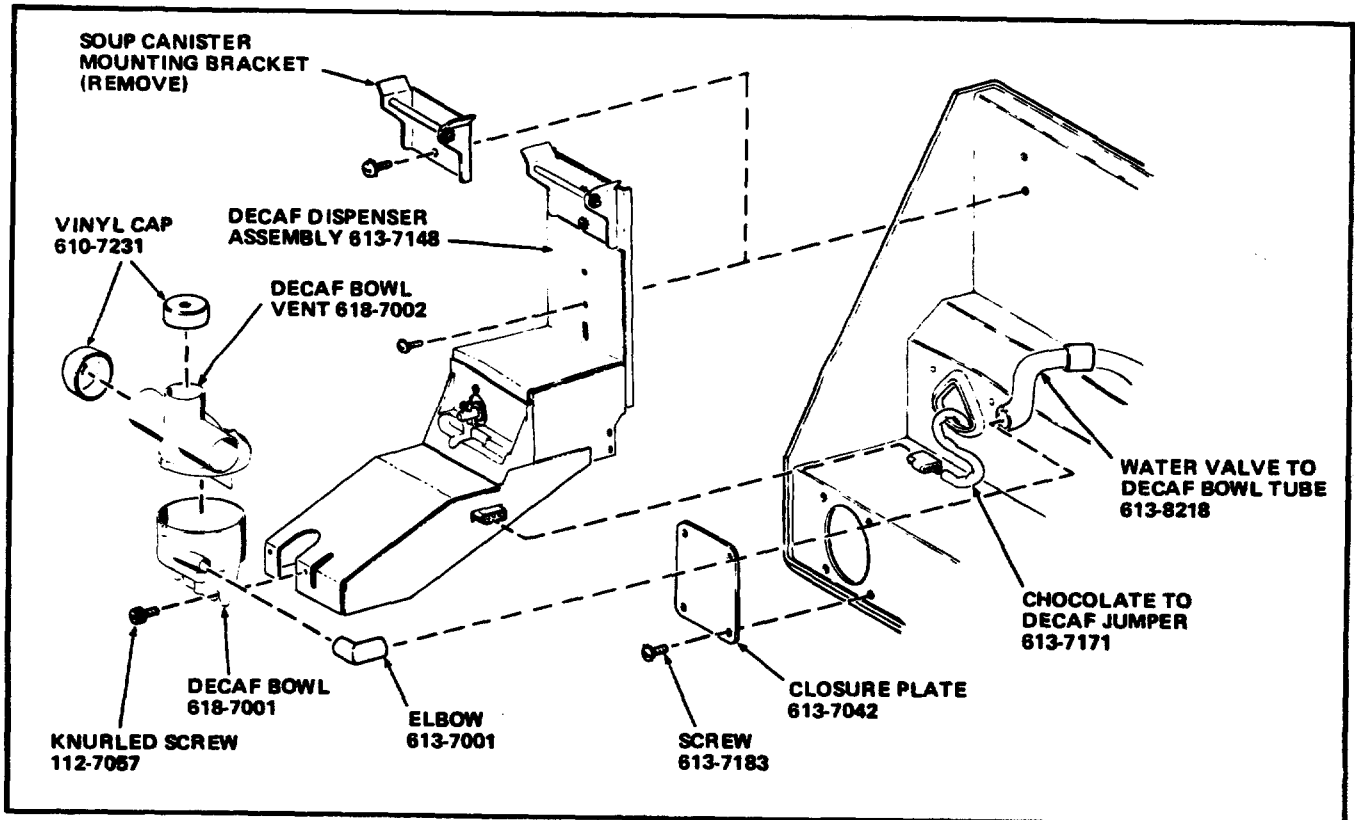

FIGURE 4
30. Position the Chocolate-to-Decaf Jumper so that the unconnected 4-circuit receptacle is extending as far as it can through the opening in the Dry Ingredients Shelf where the Soup Dispenser Motor was formerly mounted. See Figure 4.
32. Use the four Screws, part number 613-7183, and the Closure Plate, part number 613-7042, to cover the hole in the Dry Ingredients Shelf where the Soup Blender Assembly was mounted. Both parts are included in kit. See Figure 4.
33. Remove two attaching Screws and the Soup Canister Mounting Bracket from the Dry Ingredients Shelf. Be sure to retain the two Screws. See Figure 4.
34. Using the two Screws removed in Step 33, attach the Decaf Dispenser Assembly included in the kit, part number 613-7148, to the Dry Ingredients Shelf. The Dispenser is mounted by the same two holes which mounted the Soup Canister Bracket. See Figure 4.
35. Connect the receptacle of the Chocolate-to-Decaf Jumper, installed in Step 29, to the plug of the Decaf Dispenser Assembly. See Figure 4.
36. Using the two knurled Screws, part number 112-7057, attach the Decaf Bowl, part number 618-7001, to the Decaf Dispenser Assembly. Both parts are included in the kit. See Figure 4.
37. Attach the Water Valve-to-Decaf Bowl Tube to the Elbow included in the kit, part number 613-7001, and then attach the Elbow to the Decaf Bowl inlet. See Figure 4.
38. Attach the Vinyl Caps, part number 610-7231, to the top and left ports of the Decaf Bowl Vent, part number 618-7002, and then fit the Vent on the Decaf Bowl. Both parts are included in kit. See Figure 4.